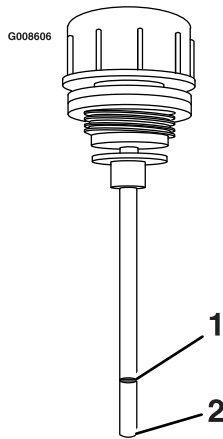

Figure 24
6. Remove the cap again and check the level of the oil on the dipstick. See Figure 24 for oil levels.